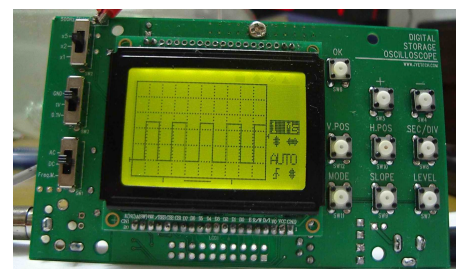

Fig. 3
- 2) Connect the red clamp to the test signal terminal located at top-left corner of the panel, as shown in Fig. 3.
- 5) Press [ V.POS ] button, adjust 0V indicator to the second last vertical scale as shown in Fig. 3.
- 7) Set Y sensitivity switch 2 (to top one) to X2 position. Waveform similar to that shown in Fig. 3 should be seen.